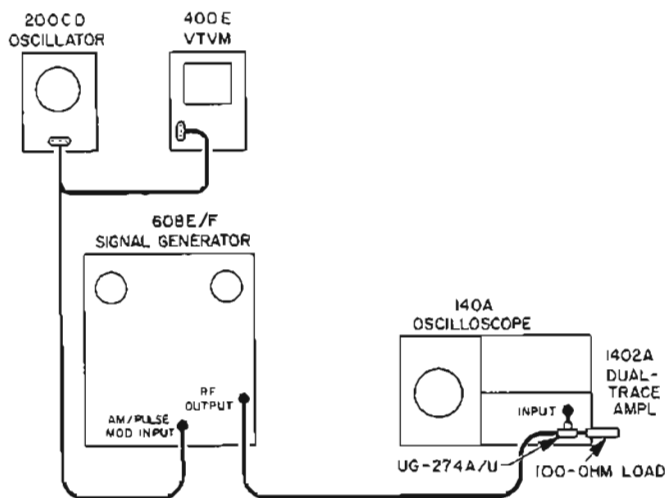

Figure 5-7. External Sine-Wave Modulation and Modulation Meter Test Setup
a. Connect signal generator in test setup illustrated in Figure 5-7.